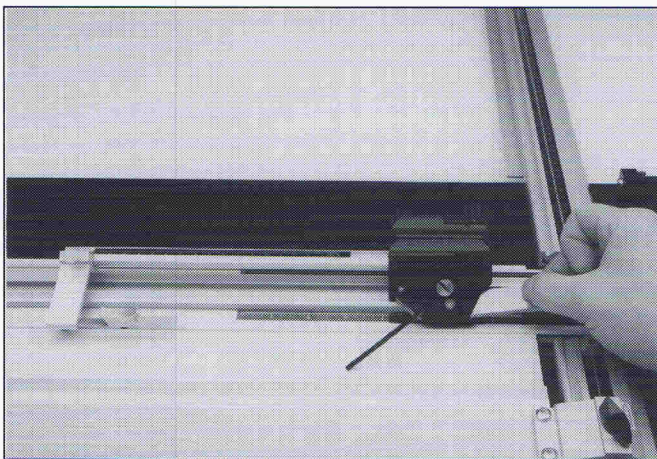

Fig. 13
1. Loosen the blade locking screw on the side of the cutter head by half a turn, using the 3mm Allen key. Slide the blade out of the rear of the cutter head (Fig. 13).